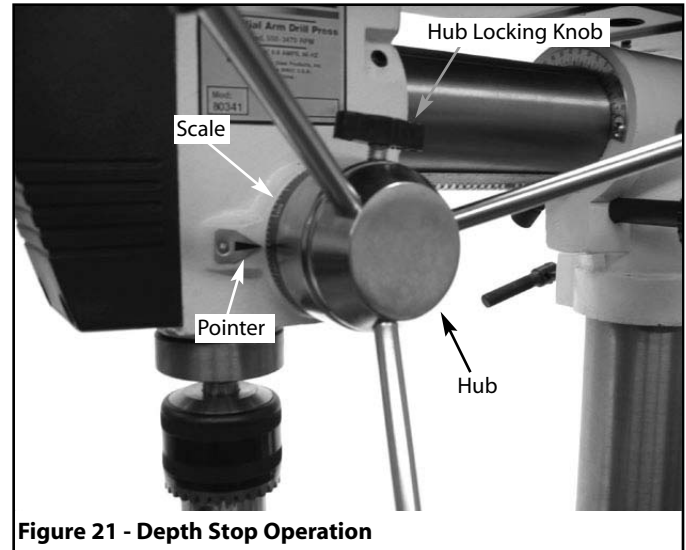

**Figure 20 - Tilting Worktable**
- Clamp table securely after adjustments have been made. (See Figure 20).